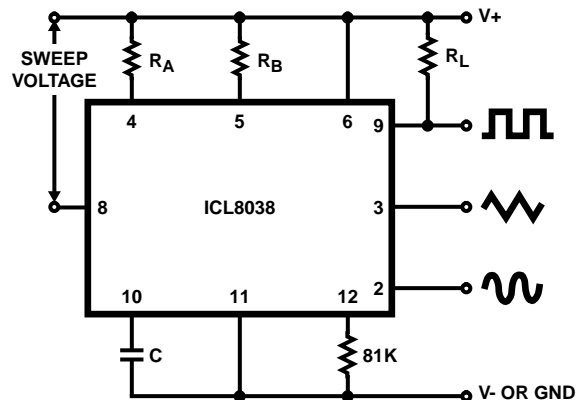

FIGURE 5B. CONNECTIONS FOR FREQUENCY SWEEP
7. The hi and lo frequencies can be obtained by connecting pin 8 to pin 7 (f_{HI}) and then connecting pin 8 to pin 6 (f_{LO}). Otherwise apply Sweep Voltage at pin 8 ($\frac{2}{3} V_{SUPPLY} + 2V$) $\leq V_{SWEEP} \leq V_{SUPPLY}$ where V_{SUPPLY} is the total supply voltage. In Figure 5B, pin 8 should vary between 5.3V and 10V with respect to ground.
For larger FM deviations or for frequency sweeping, the modulating signal is applied between the positive supply voltage and pin 8 (Figure 5B). In this way the entire bias for the current sources is created by the modulating signal, and a very large (e.g. 1000:1) sweep range is created (f = 0 at VSWEEP = 0). Care must be taken, however, to regulate the supply voltage; in this configuration the charge current is no longer a function of the supply voltage (yet the trigger thresholds still are) and thus the frequency becomes dependent on the supply voltage. The potential on Pin 8 may be swept down from V+ by (1/3 VSUPPLY - 2V).